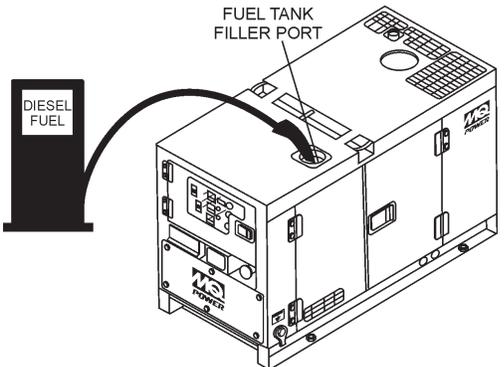

Figure 20. Fueling the Generator
2. Remove fuel cap (internal fuel tank) and fill fuel tank as shown Figure 20.